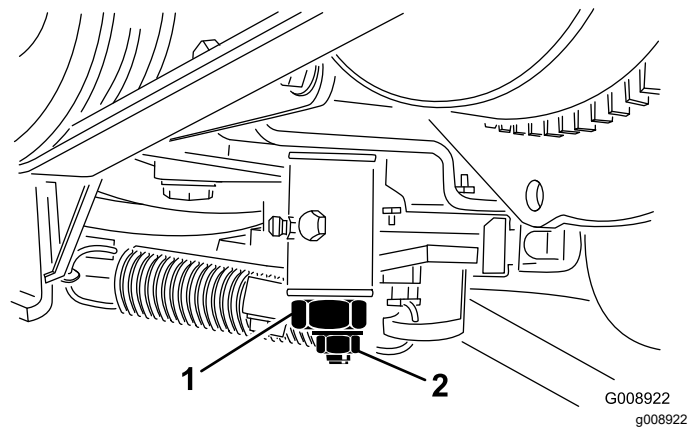

Figure 54
4. Loosen the locknut on the traction adjustment cam (Figure 54).